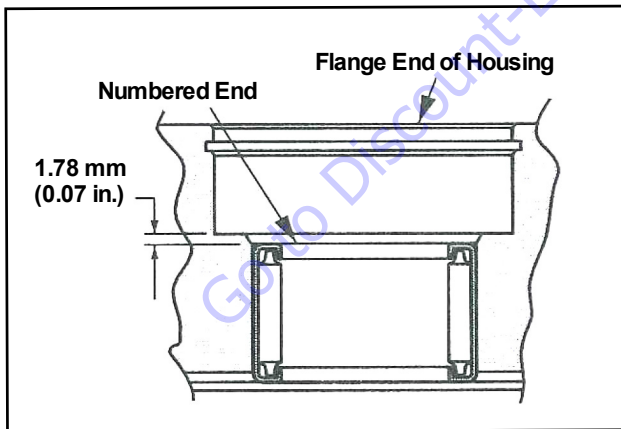

Figure 5-154. Housing Inspection
- Check the bearing (press fit) in housing. If needles remain in cage, move freely, and setting at the dimension shown in Figure 5-154., removal not required.
2. If necessary, press new bearing in housing to dimension shown in Figure 5-154. with the numbered end of bearing outward.